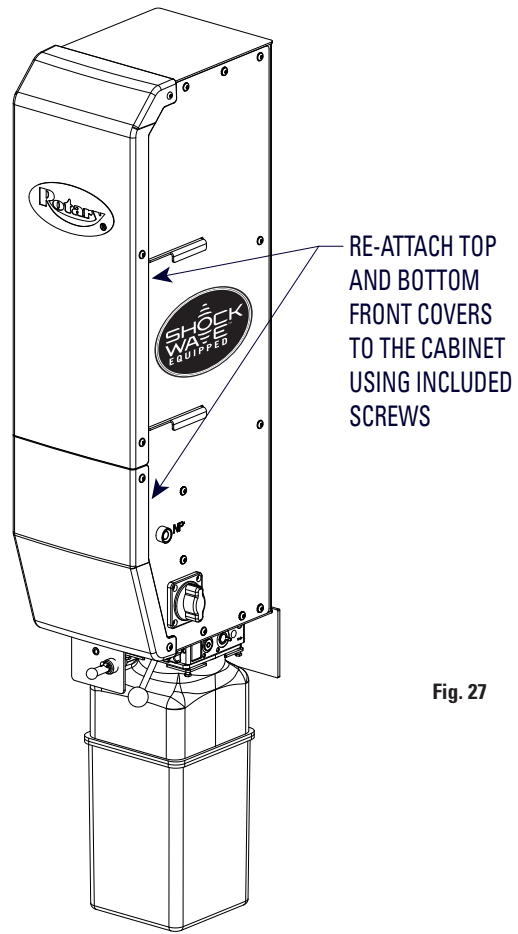

Fig. 27
22. **Close DC Control Cabinet:** Re-attach the front plastic covers to the DC control cabinet using the same button head cap screws, Fig. 27.